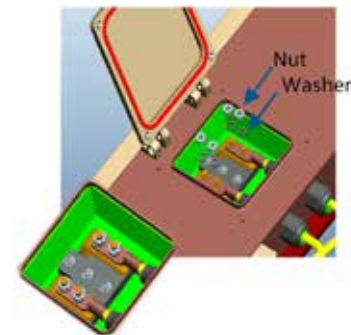

Figure 17. Tightening Lug to Terminal
Step 5. Tighten lug to terminal with nut and washer (Figure 17).